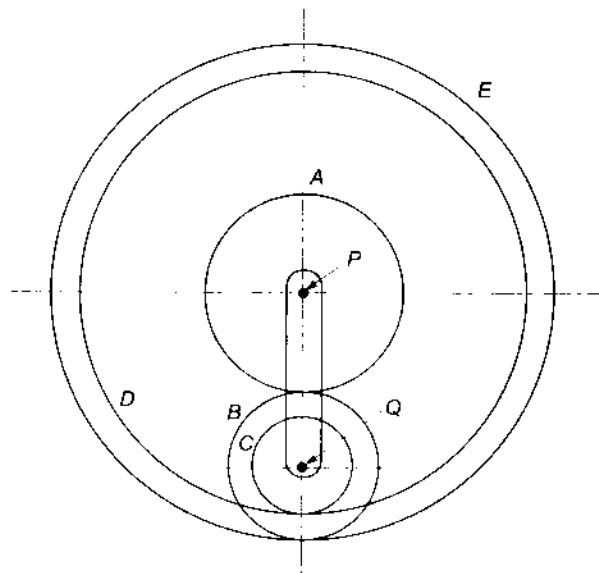

Fig.12.26 Compound epicyclic gear train
- 5 A compound epicyclic gear train is shown in Fig.12.26. The gears A , D and E are free to rotate on the axis P . The compound gears B and C rotate together on the axis Q at the end of arm F . All the gears have equal module. The number of teeth on the gears A , B and C are 18, 45 and 21 respectively. The gears D and E are annular gears. The gear A rotates at 120 rpm counter-clockwise and the gear D rotates at 450 rpm clockwise. Find the speed and direction of the arm and the gear E .